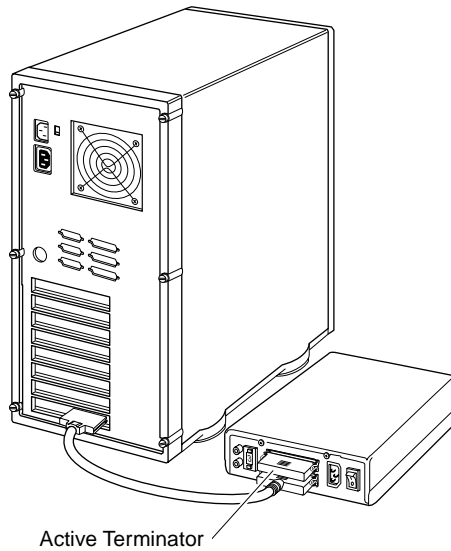

Figure 2-8. Attaching a Single External Device
- 3** Attach the connector at the other end of the cable to either one of the SCSI connectors on the external SCSI device, as shown in Figure 2-8. (If you are installing only one external device, attach an active terminator to the device.)
On most internal SCSI devices the termination setting is controlled by setting a jumper or a switch, or by physically removing or installing a resistor module(s). On most external SCSI devices, termination is controlled by installing or removing a terminating plug (see Figures 2-8 and 2-9). Read the device's documentation to